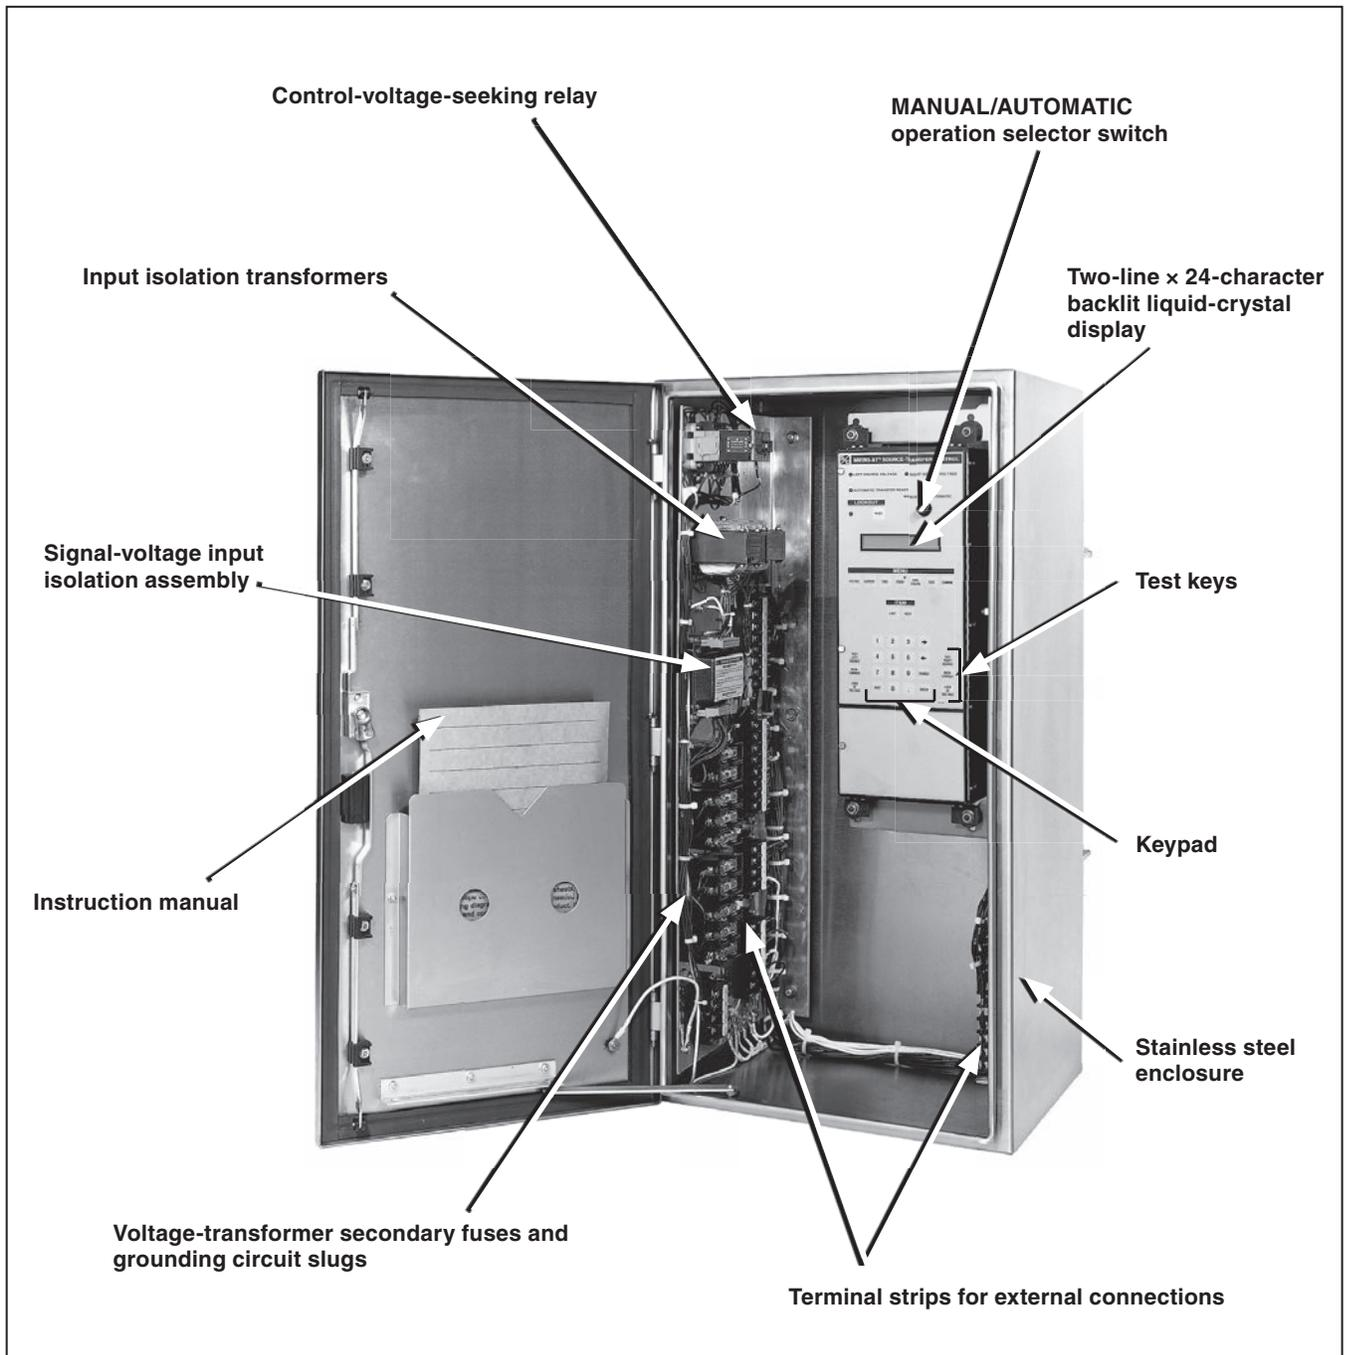

Figure 2. Close-up of the interior.
The Micro-AT Source-Transfer Control in a weatherproof enclosure includes the following standard features, illustrated in Figure 2 on page 7:
- STEP 4.** Remove the voltage-transformer secondary fuses and grounding circuit slugs from the source-transfer control enclosure. See Figure 2 on page 7 for location of these components.